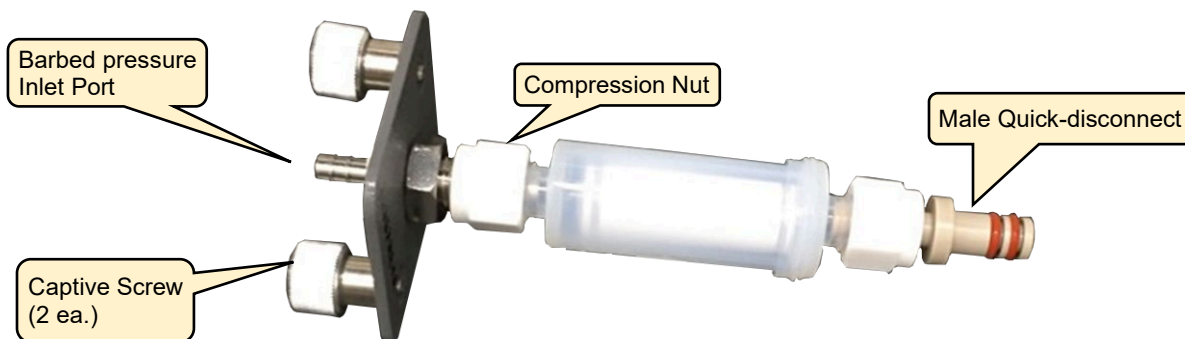

Figure 63: Pressure Inlet Filter Assembly – Removed from Housing
3. Figure 63 shows the pressure inlet port filter assembly after removal. It is not necessary to remove the hose from the barbed inlet port.